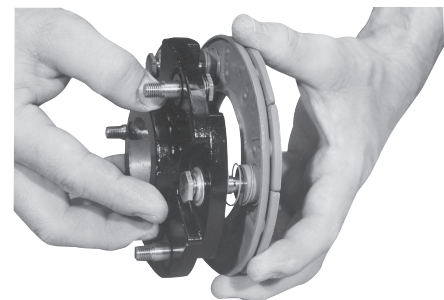

Figure 10
- Step 5 Holding the pins in position, place the armature hub over one armature. Make sure the straight springs on the armature bosses fit into the grooves in the armature hub. (Figure 10)